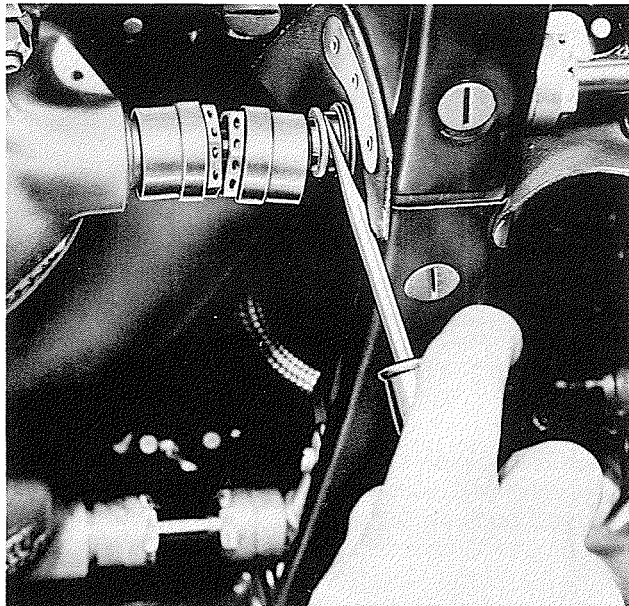

Figure 7-25. Pushing Tube into Rocker Box Cover
b. Push the tube into the rocker box using a screwdriver. See figure 7-25.